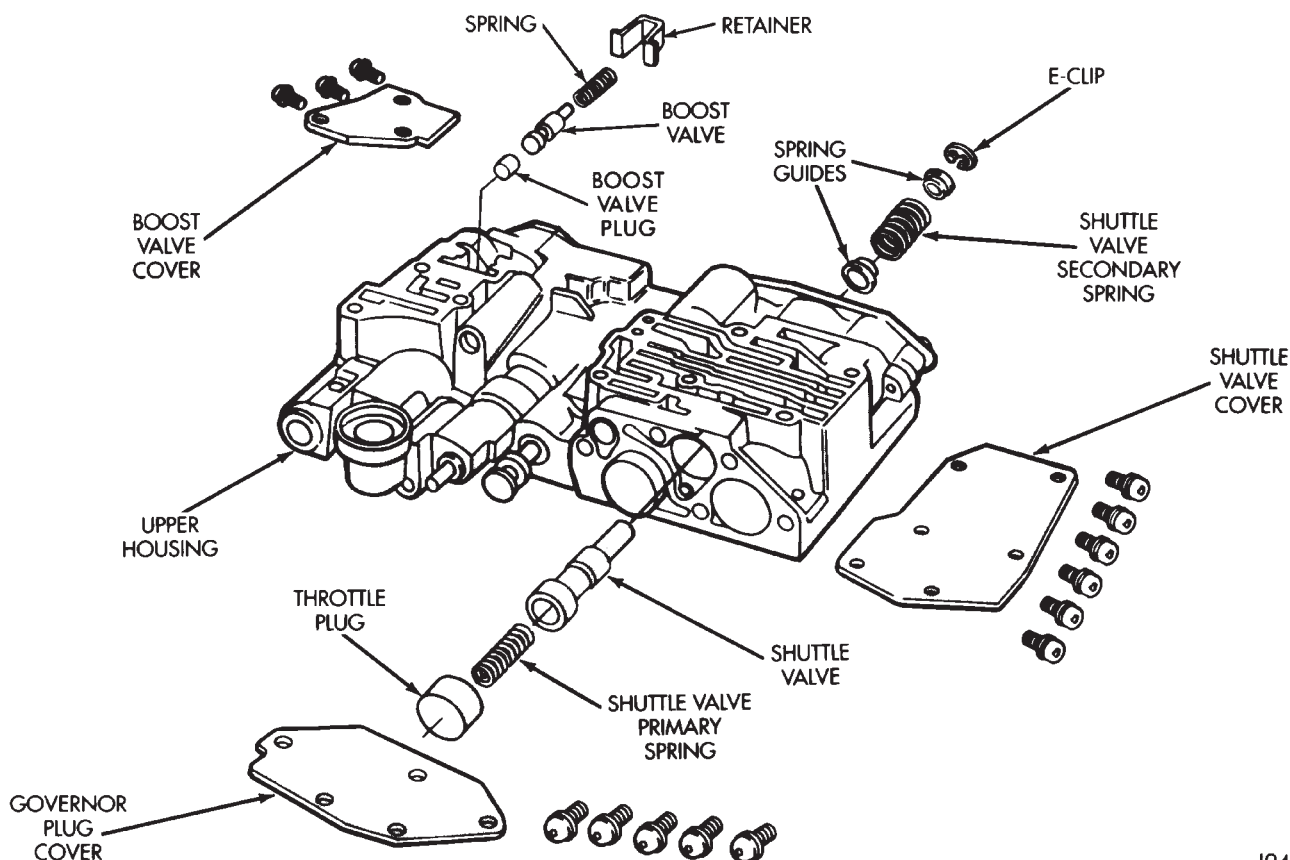

Fig. 70 Shuttle And Boost Valve Components
(2) Remove governor plug and shuttle valve covers (Fig. 70).
(4) Remove throttle plug, primary spring, shuttle valve, secondary spring, and spring guides (Fig. 70).
(5) Remove boost valve retainer, spring and valve if not previously removed.